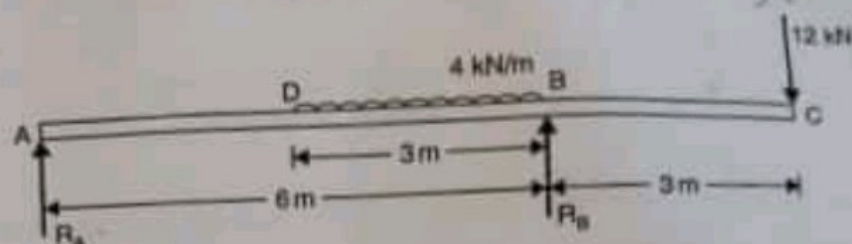

Fig. 3
4. A beam ABC of length 9 m has one support at the left end and the other support at a distance of 6 m from the left end. The beam carries a point load of 12 kN at right end and also carries a uniformly distributed load of 4 kN/m over a length of 3 m as shown in Fig. 3. Determine the slope and deflection at point C. [20]